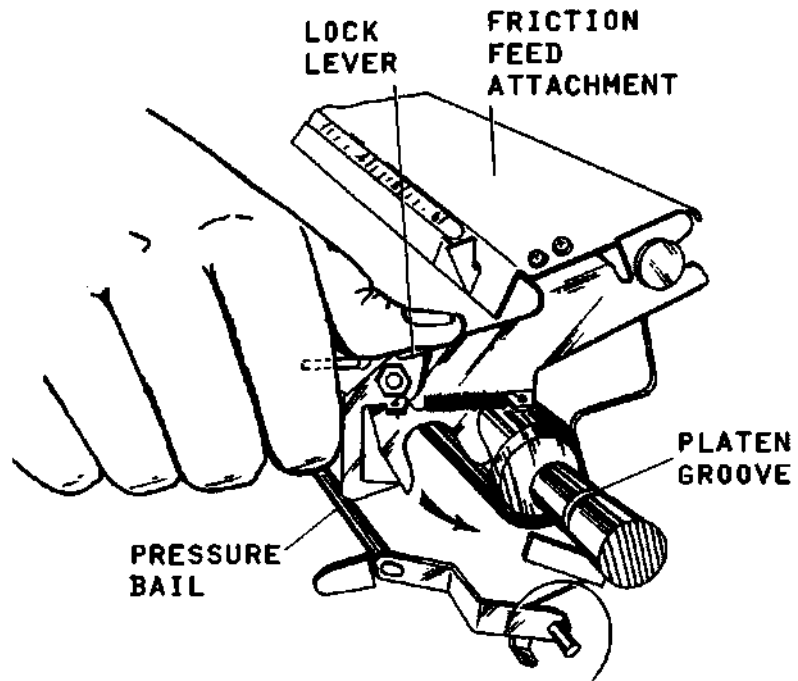

Figure 3-3 Friction-Feed Attachment Removal
- c. Press the lock levers and simultaneously raise the assembly upward and toward the rear of the printer as shown in Figure 3-3.